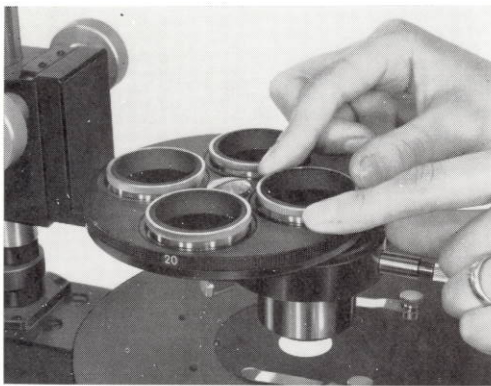

Fig. 21
- Then, bring the specimen into approximate focus. Replace the eyepiece with the centering telescope. Turning the head of the telescope, bring the image of the annulus in the phase shifting plate into focus. If the bright image of the annular diaphragm is not coincident with the phase shifting plate, push the diaphragm with the finger, until the coincidence is attained. (Fig. 21, 22)